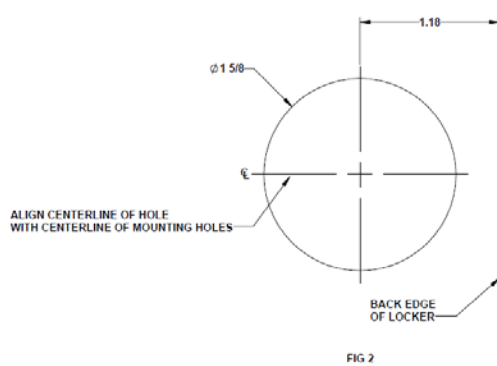

FIG 2
- 3- Position the cable pass through opening (figs. 2 & 3)
- 4- (Attach interconnecting cable if needed) Insert the cable end through the pass through (fig. 2). Mount the power unit using screw (D) for sheet metal or screw (B) for wood** (fig. 3). Don't tighten the screws all the way. Place the cover over the base to ensure proper fit shifting the base as needed. Tighten the mounting screws to fix in place.